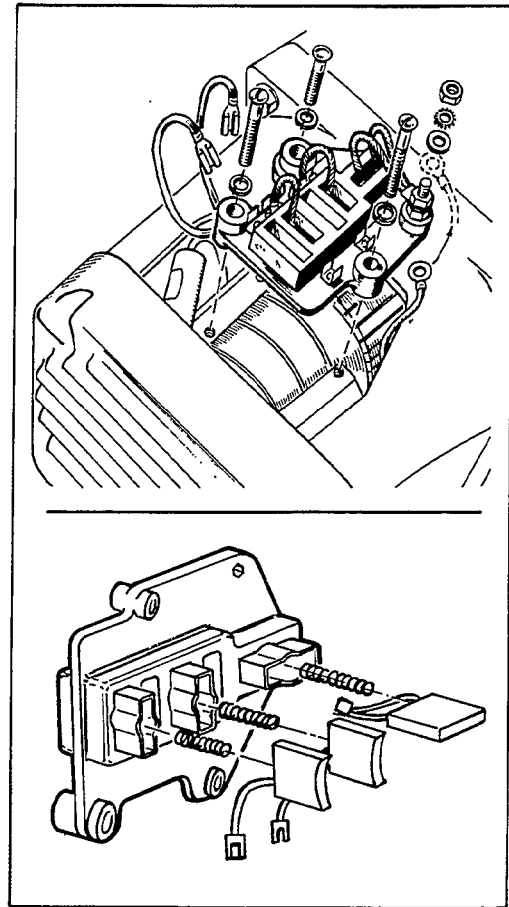

FIGURE 2-3. GENERATOR BRUSH REMOVAL
3. Remove the three screws holding each brush block in place (Figure 2-3).